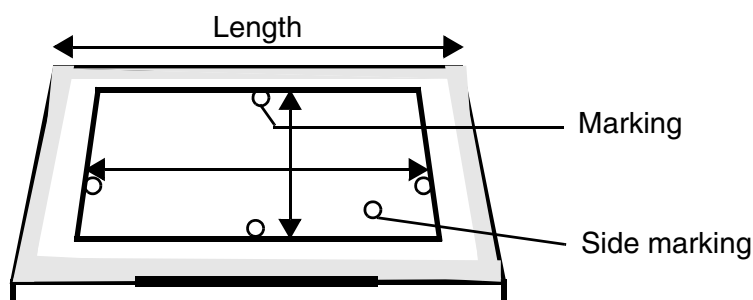

Fig. 3
- Attach radiopaque markings (e.g. washers, coins) to the cassette as shown in Fig. 3. Attach a washer as lateral marking.